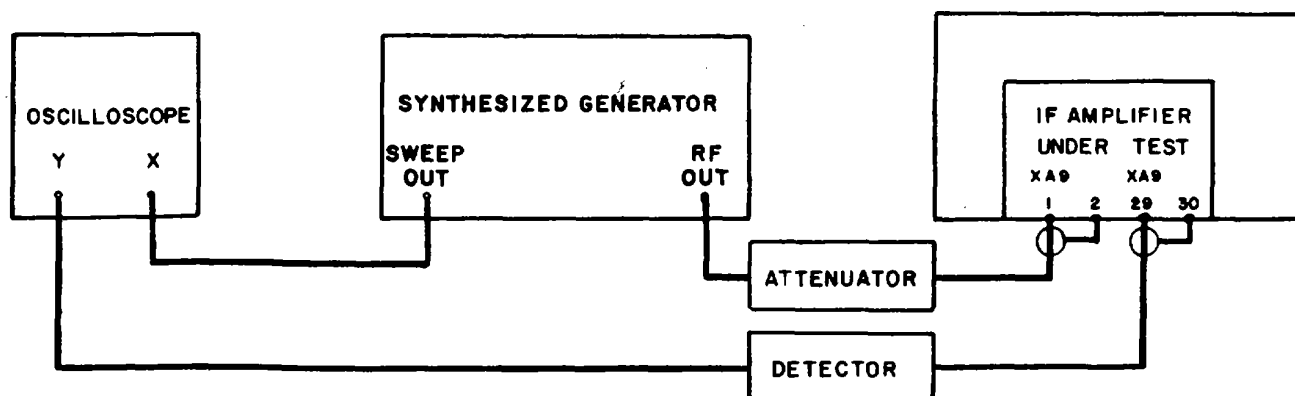

Figure 4-20. IF Amplifier Alignment, Equipment Connections
4. Connect the test equipment as illustrated in **Figure 4-20** except, connect the attenuator output to the input of the 50 Ω detector.
6. Connect the detector and attenuator as illustrated in **Figure 4-20** and increase the attenuator setting to the dB level listed in the Gain column of **Table 4-19**, corresponding to the IF Amplifier under test.